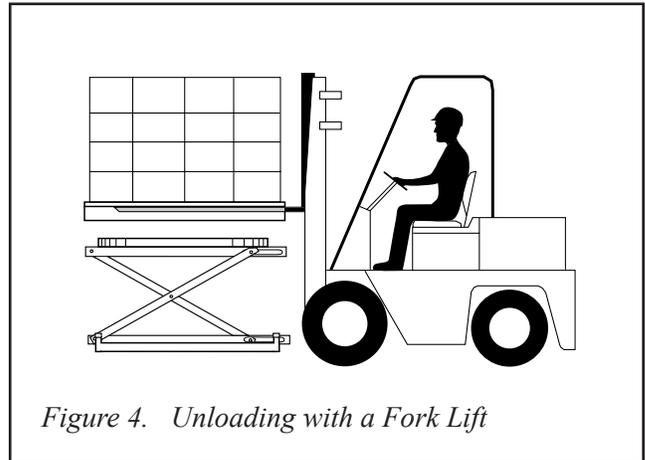

Figure 4. Unloading with a Fork Lift
1. Insert the forks into the pallet, and lift the pallet clear of the top of the unit. See Figure 4.